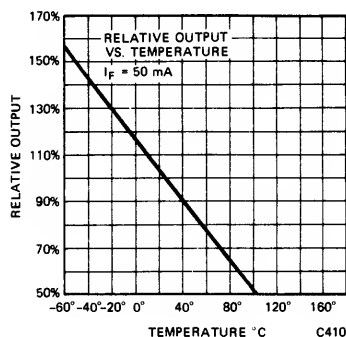

Fig. 3. ROP vs. Temperature
1. The curves in figure 3 are normalized to the power output at 25°C to indicate the relative efficiency over the operating temperature range.